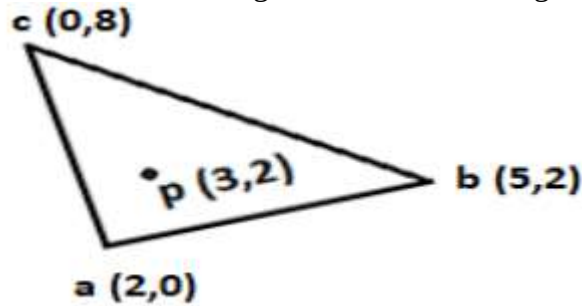

Figure-5
- (c) Find the Jacobian matrices for triangle shown in following Figure-5 **07**